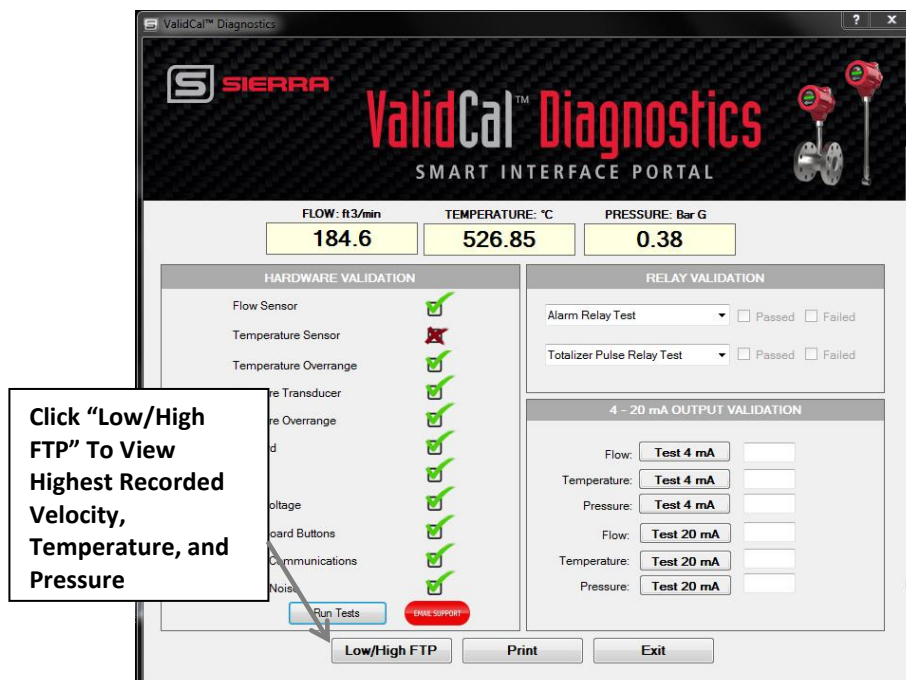

Figure 13. "Low/High FTP" to View Highest Recorded Velocity, Temperature, Pressure
- Go to the **Low/High FTP** to see the highest velocity recorded (See Figure 13).
- Check the Low/High FTP to see if the meter’s temperature limits have been exceeded (Figure 13).
- Check the Low/High FTP (See Figure 13) to see if the meter's temperature limits have been exceeded. See Figure above to get number.
- Check Low/High FTP to see if the meter's pressure limits have been exceeded (Figure 13).